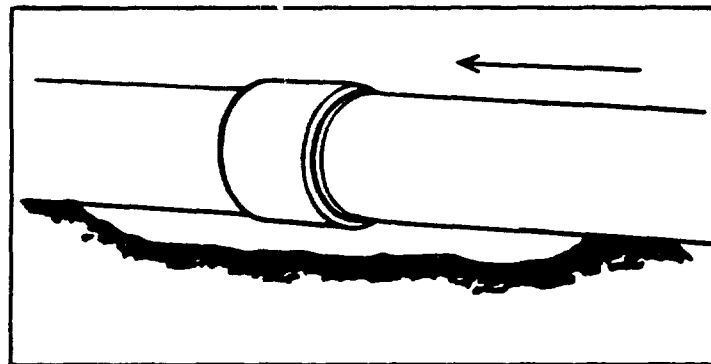

Figure 39
- Completed joint is shown in Figure 39.
- I. Place puller base chain tightly around pipe. Fasten link into slot. (Figure 39-A).
- L. Pull handle toward fixed pipe with one continuous motion until coupling is seated against both CERTA-SPACER rings. (Figure 39-A)